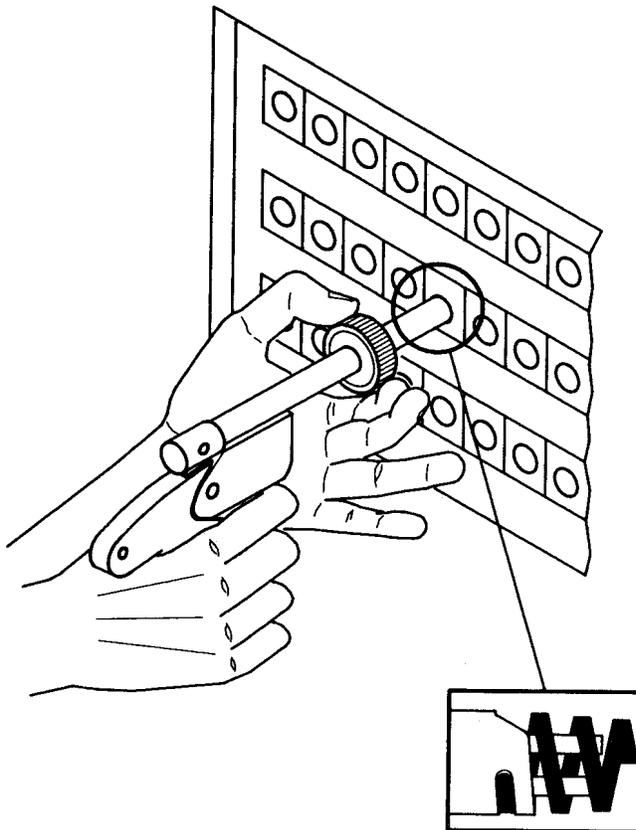

Fig. 9—Tooth in Locked Position
- (5) While applying a slight inward pressure on the tool, rotate the knurled wheel clockwise until it stops. This process engages the tooth into the first helix of the spring (Fig. 9).